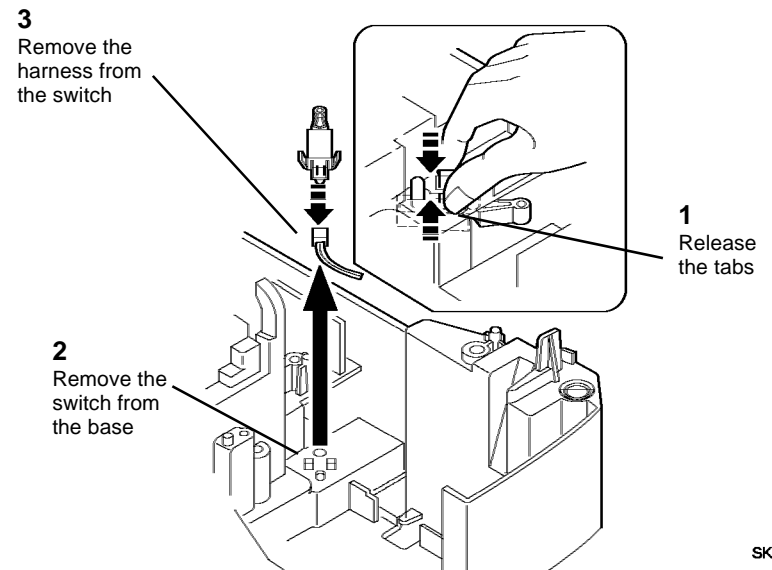

Figure 3 Removing the Tray Detect Switch Harness
4. (Figure 3): Remove the Tray Detect Switch Harness.